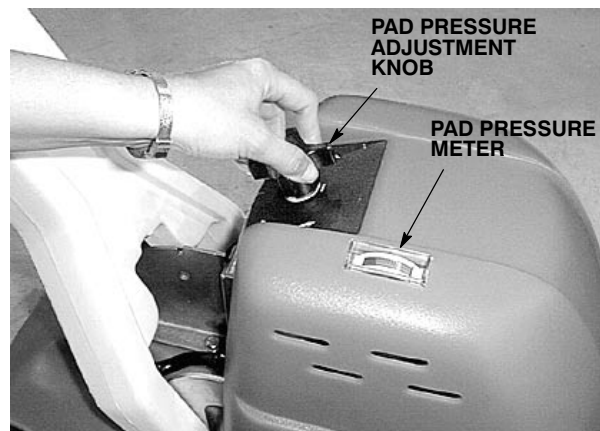

FIG. 6
3. Once you begin operating machine, view pad pressure meter and adjust pad pressure adjustment knob if necessary. Operate machine with meter needle in the green zone ONLY. Turn knob counterclockwise to increase pad pressure and clockwise to decrease (Figure 6).